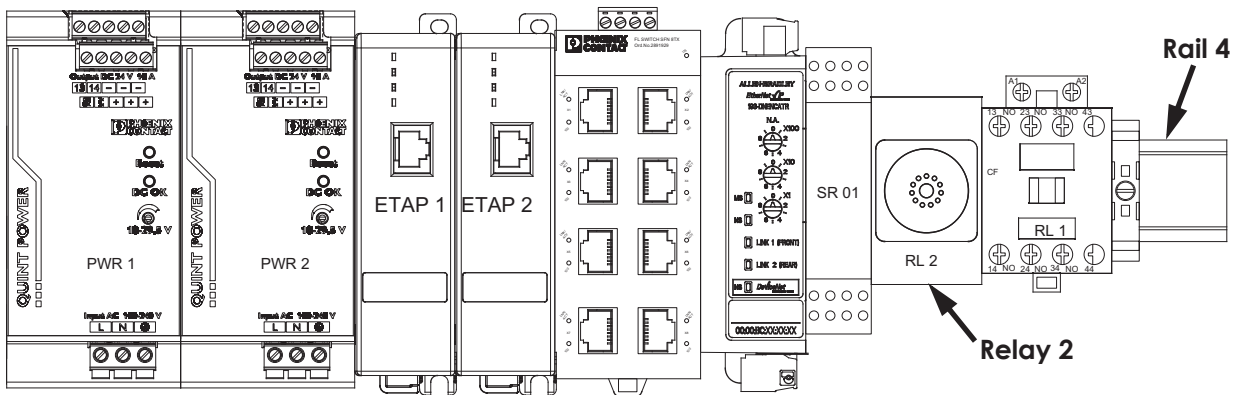

Figure 1: Relay 2 is located on Rail 4 in the CIP
2. Using multimeter, ensure there is no voltage present to the cabinet and Relay 2 located on Rail 4 (See Figure 1 on page 2).